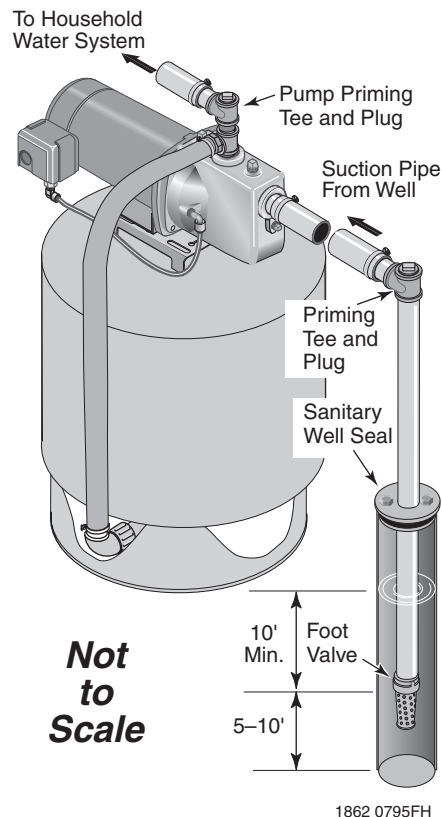

Figure 2: Cased Well Installation
## CASED WELL INSTALLATION, 2" OR LARGER CASING (FIGURE 2)
- Step 2. Assemble the foot valve, strainer, and well pipe (see Figure 2). Make sure that the foot valve works freely.
Step 4. Install a priming tee, priming plug, and suction pipe to the pump (see Figure 2). Connect the pipe from the well to the pump suction port, using the fewest possible fittings – especially elbows – as fittings increase friction in the pipe (however, include a foot valve – see Figure 2). The suction pipe should be at least as large as the suction port on the pump. Use PTFE pipe thread sealant tape on threaded pipe joints. Support the pipe so that there are no dips or sags in the pipe, so it doesn't strain the pump body, and so that it slopes slightly upward from the well to the pump (high spots can cause air pockets which can air lock the pump). Seal the suction pipe joints with PTFE pipe thread sealant tape. Joints must be air- and water-tight. *If the suction pipe can suck air, the pump cannot pull water from the well.*